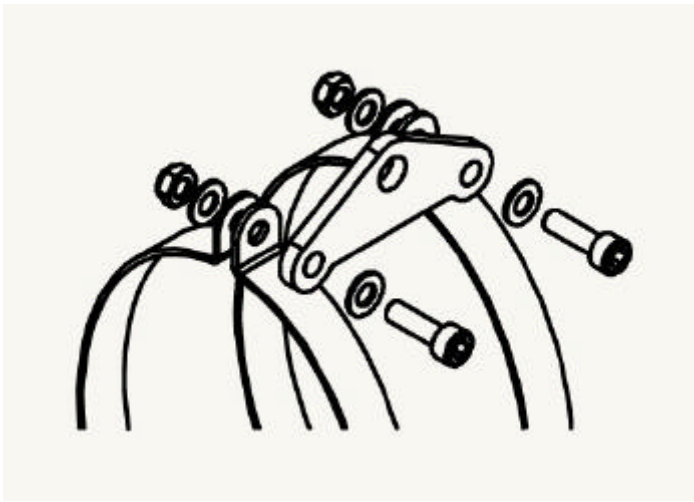
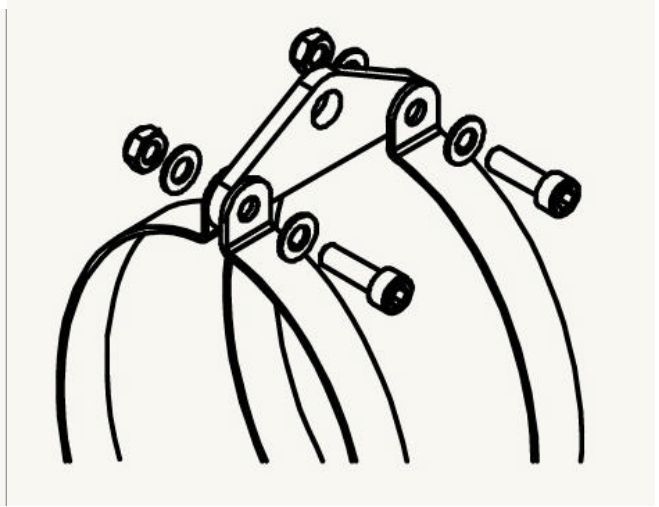

Fig 1: For polished silencer
Fig. 2: For Carbon silencer
5. Insert the TiForce can to the tail pipe and attach springs. Carefully align the two silencer bands so that they are parallel to each other. Make sure that the rubber pads fully cover the silencer bands. Tighten the 6mm hardware (2 6x25mm bolt, 2 M6 nut, 4 M6washer). (See Fig. 1 for Polished silnecer, See Fig 2 for Carbon silencer.) Use caution when tightening the 6mm hardware and the two bands so as not to crush or distort the sleeve of the can. Repeat the same procedure for left TiForce can.